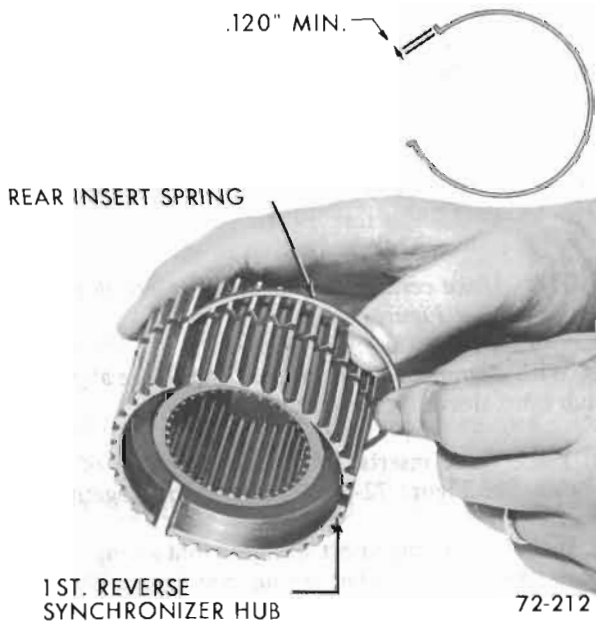

Figure 72-81 - Installing Rear Insert Spring
1. Install rear insert spring in groove in first-reverse synchronizer hub. See Figure 72-81.